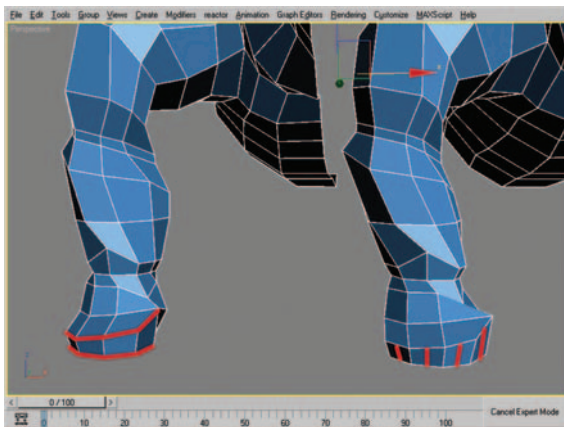

Figure 9.58 Edge selection and resulting edges after using Connect.
19. Select the eight edges shown in Figure 9.58 (left) and use Connect to create the new edges seen in Figure 9.58 (right).